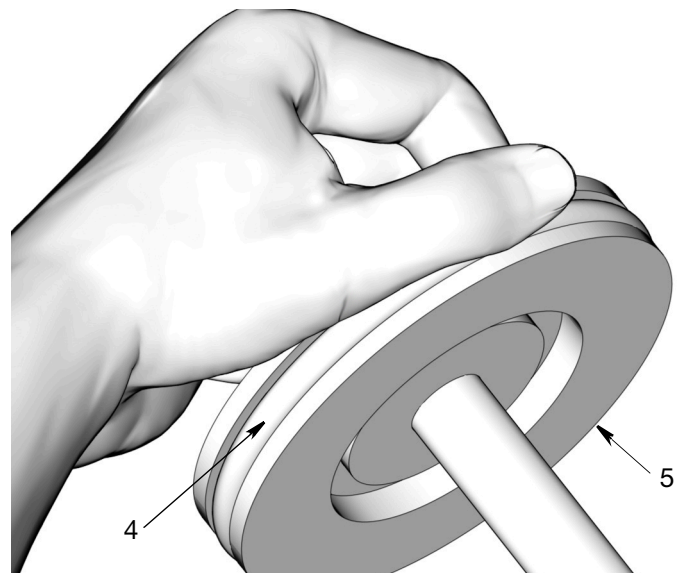

FIG. 33
8. Apply a thin layer of grease to the piston seal (4). Install the seal around the piston (5) as shown in FIG. 33.